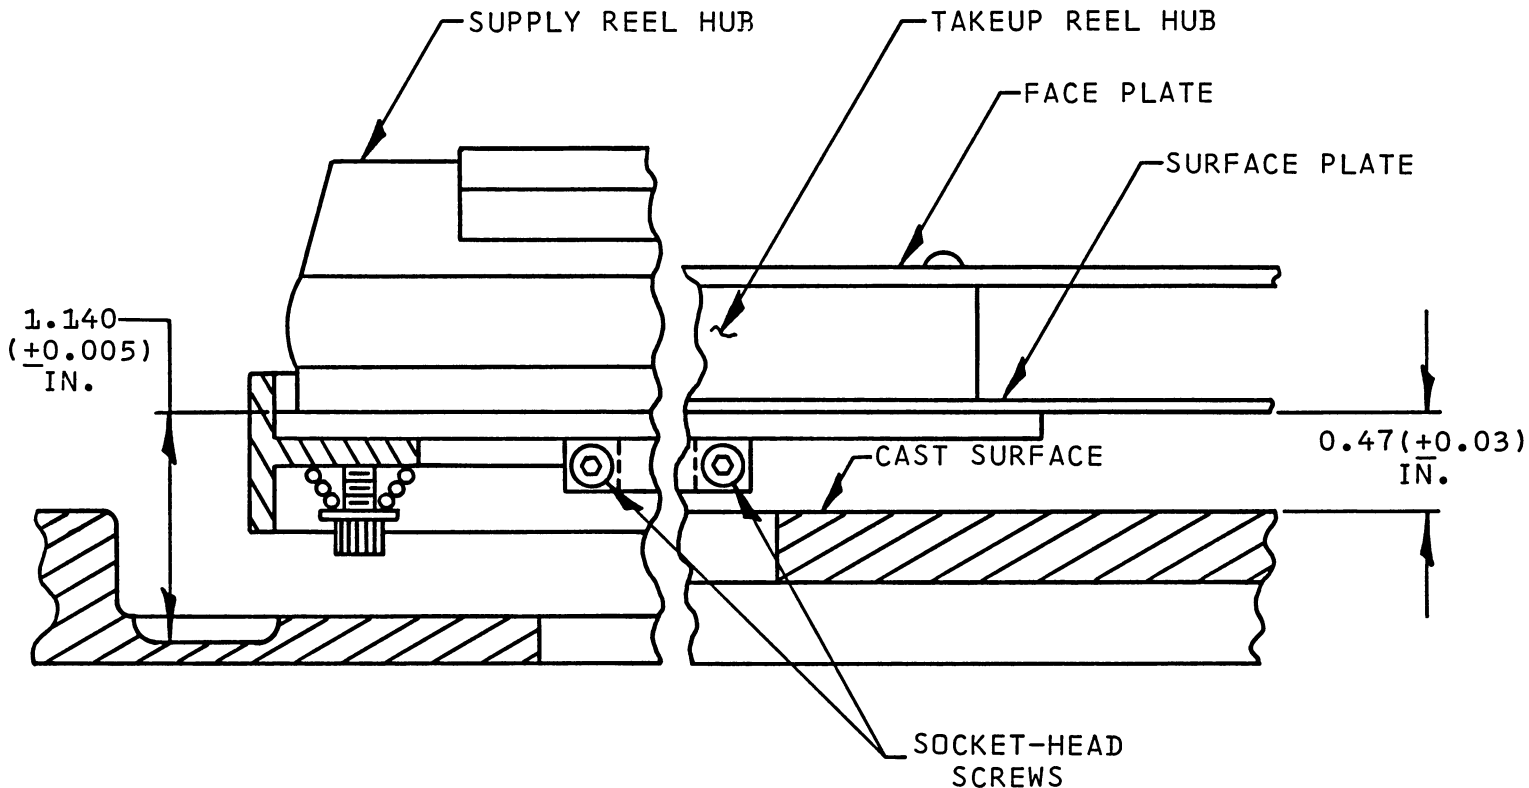

Figure 5-4. Reel Hub, Showing Adjustment Dimension
5-21. REEL HUB. Replace and adjust the supply or takeup reel hub as follows (Figure 5-4):
- b. Install replacement hub on shaft to obtain dimension shown in Figure 5-4, and tighten socket-head screws.